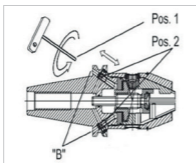

Figure 14: Unscrewing threaded pins
1. Turn on bore "B" the two threaded pins counterclockwise by using the **size 2.5** hex-wrench until the threaded pins fit at item 2 (see "Figure 14: Unscrewing threaded pins").